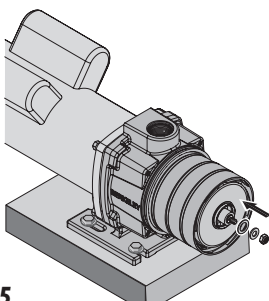

Figure 25
6. Reinstall the toothed washer, the flat washer, and the impeller nut (in that order – Key Nos. 12,13,14) onto the motor shaft (see Figure 25). Hold the shaft and tighten the impeller nut to 12 ft.-lbs. torque.